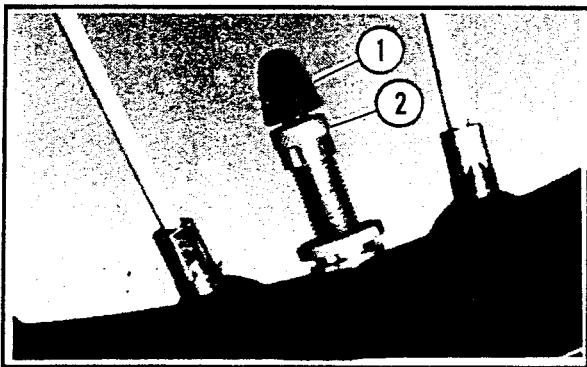

Figure 5-64. Valve Stem Cap, Protective Cover
2. See Figure 5-64. Remove protective cover (1) and valve stem cap (2).